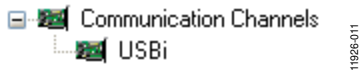

Figure 16. Adding the USBi Communication Channel
- a. Add a **USBi** component from the **Communication Channels** subsection of the toolbox (see Figure 16).